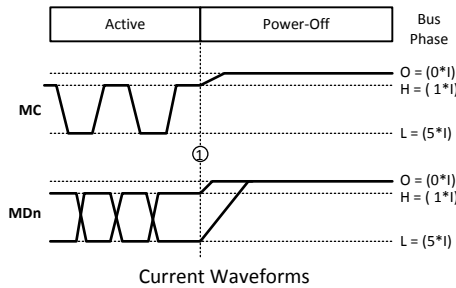

Figure 10. Bus Power Down Timing
(1) Typical values are given for V_{DDIO} = 1.8V and V_{DD} = V_{DDA} = 1.8V and T_A = 25°C.
(2) 1 UI is the serial data MD pulse width = 1 / 8xPCLK (3 MD lanes), 1 UI is the serial data MD pulse width = 1 / 12xPCLK (2 MD lanes)
(3) This is a functional parameter and is specified by design or characterization.
(4) Enable Time is a complete MPL start up comprised of t₀ + t₁ + t₂ + t₃ + t₄.
(5) Specified functionally by the I_{DDZ} parameter. See also Figure 10.
In the OFF phase, MPL transmitters are turned off with zero current flowing on the MC and MDn lines. Figure 10 shows the transition of the MPL bus into the OFF phase. If an MPL line is driven to a logical Low (high current) when the OFF phase is entered it may temporarily pass through as a logical High (low current) before reaching the zero line current state. The link may be powered down by asserting both the SER’s and DES’s PD* input pins (Low) or by stopping the PCLK (DES dependant). This causes the devices to immediately put the link to the OFF Phase and internally enter a low power state.